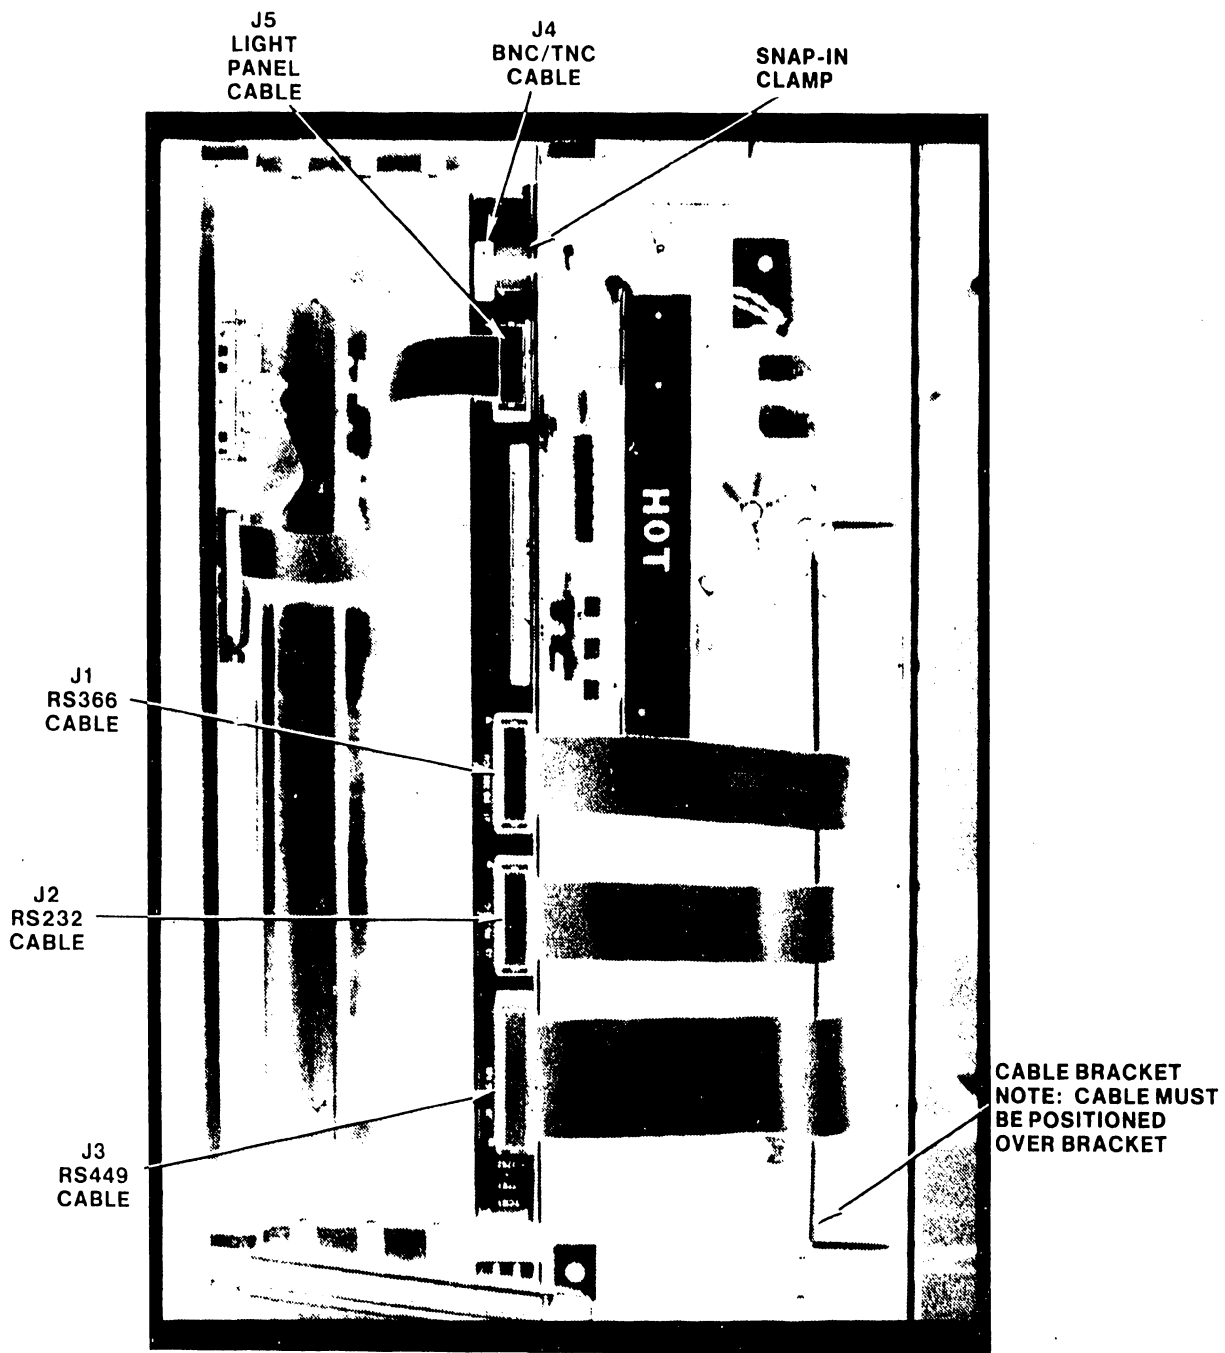

FIGURE 3-5 TCP (TOP VIEW TC-B1 INSTALLED)
- d. Route the BNC/TNC Cable over the cable bracket and Plug it into the J4 connector on the TC-B1 mounting bracket. The BNC/TNC Cable is held in place by a snap-in clamp (see figure 3-5).
- e. Plug the Light Panel Cable into the J5 connector on the TC-B1 mounting bracket (see figure 3-5).
- f. Connect the RS366 Cable into J1, the RS232 Cable into J2, and the RS449 Cable into J3 on the TC-B1 mounting bracket. All three cables must be routed over the cable bracket as shown in figure 3-5. This prevents the cables from blocking the flow of air from the fan.
- b. Disconnect RS 449, RS 232-C, RS 366-ACU, Light Panel, and BNC/TNC cables (see figure 3-5).
- b. Disconnect the Light Panel cable from J5 (see figure 3-5).